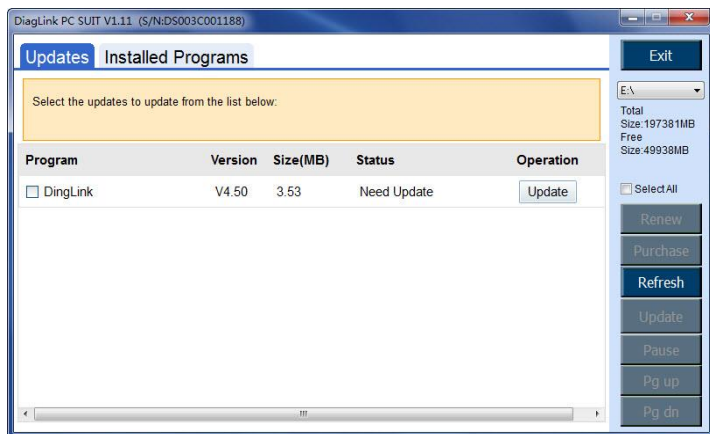

Figure 10.4
- 1) You will come into the Update window after successful registration. First install the management program by click **Update** button (Figure 10.4).